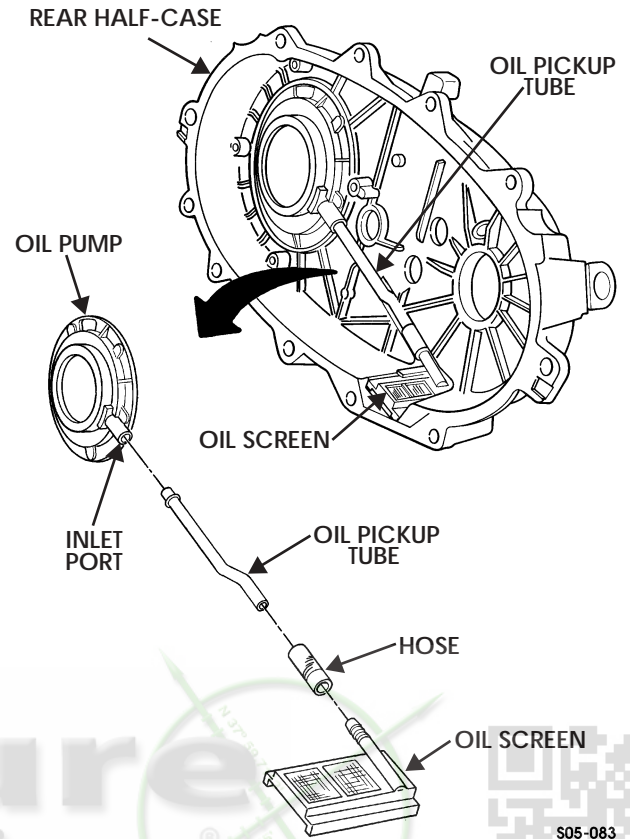

Figure 5-136: Rear Half-case
17. Rotate oil pickup tube and oil screen out of rear half-case and disconnect oil pickup tube from oil pump inlet port (Figure 5-136).